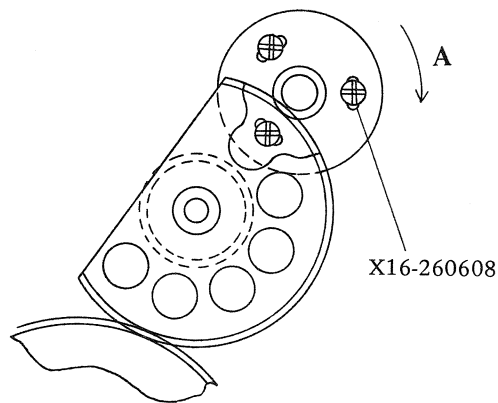

Fig. 20
3. Adjust the gear so that the back-lash moves toward the direction of the arrow "A", and fix it with the Screw (X16-260608) (Fig.20).